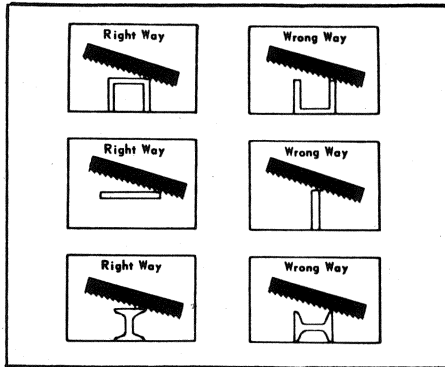

Fig. 5
8. Fig. 5, shows the proper cutting position for various shapes.